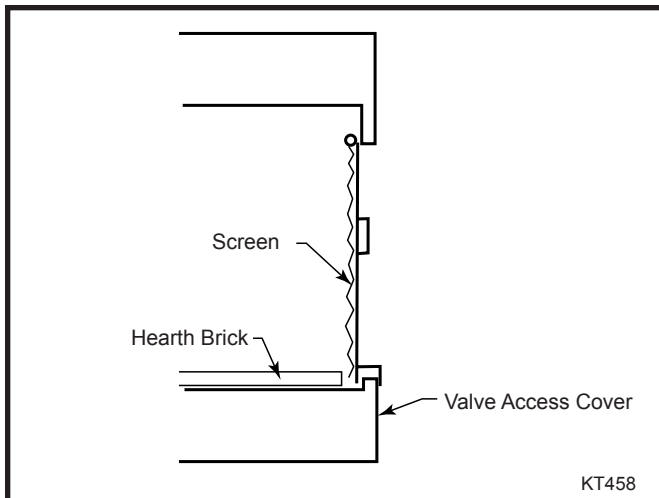

Fig. 20 Push bottom of weather enclosure into firebox.
4. Push the bottom of the weather enclosure into the firebox just enough to clear the valve access cover and set down. (Fig. 20)